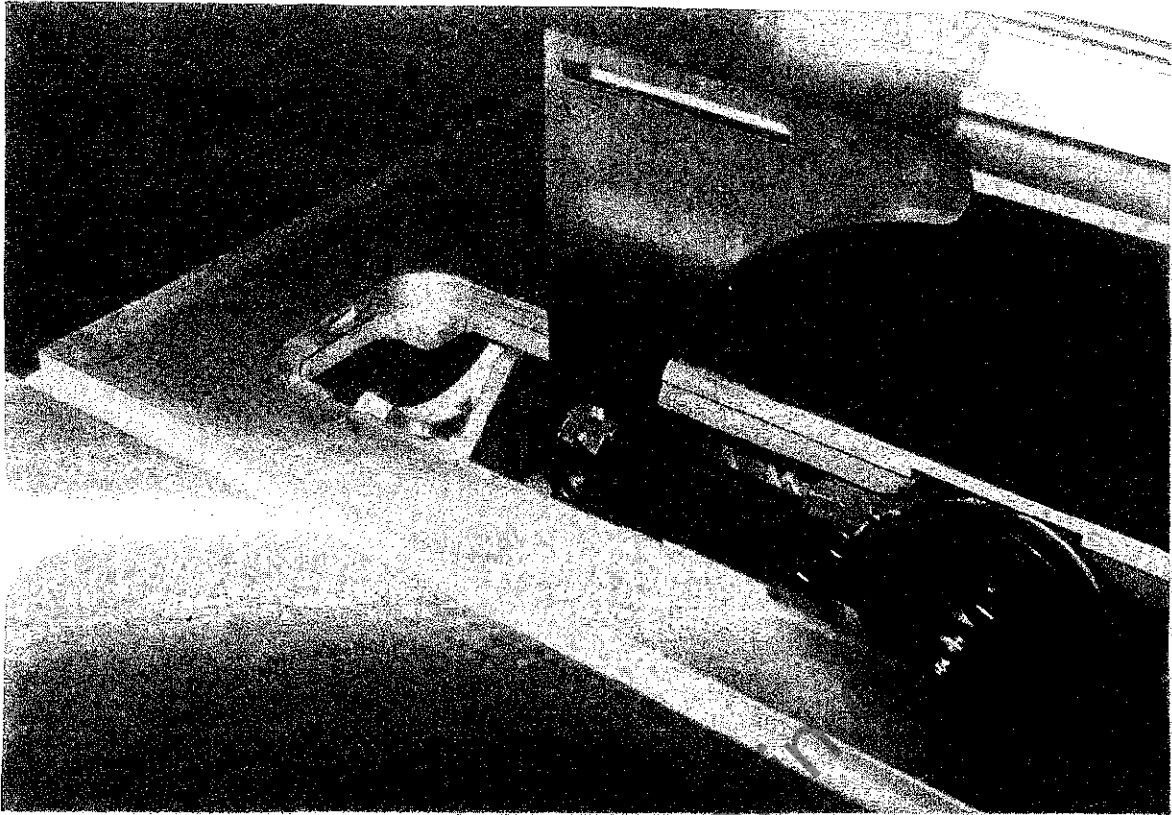

FIG. 8
- b) Loosen M16 locking screw and position riving knife between pressure plate and guide plate FIG.8.